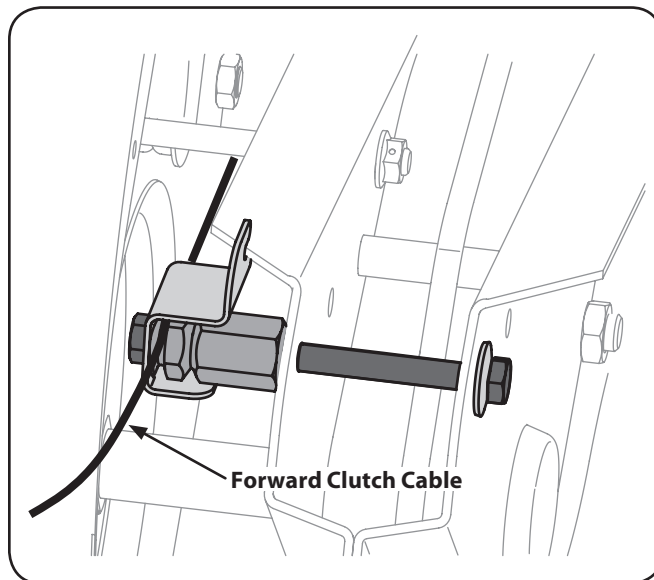

Figure 3-1
1. Identify the forward clutch cable. Fig. 3-1.